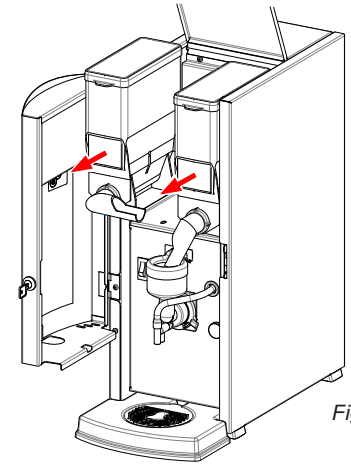

Fig. 25
1. Take the canister(s) from the device by pulling it/ them towards you (fig. 25).